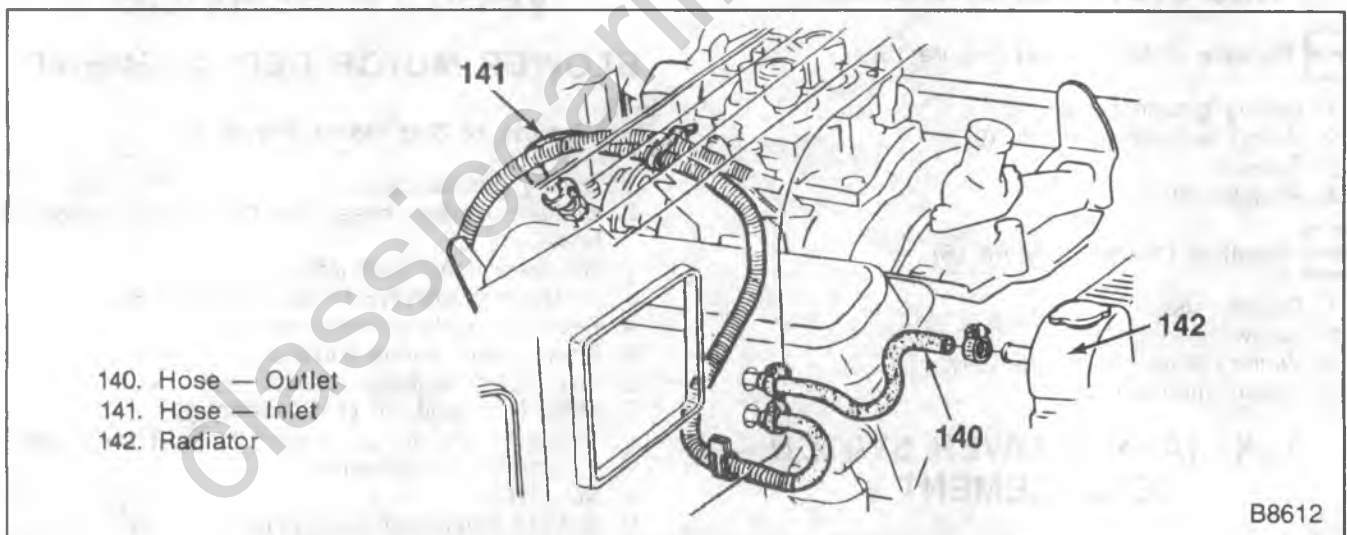

Figure 18—Heater Hose Routing—4.3L, 5.0L and 5.7L Engines
Heater hoses are routed from the thermostat housing or inlet manifold and water pump (radiator on some automatic transmission vehicles) to the core inlet and outlet pipes. Hoses are attached at each end with screw-type clamps. (Refer to figures 18, 19, and 20.)
3. Heater core hoses (140 and 141) (figures 18, 19, and 20).